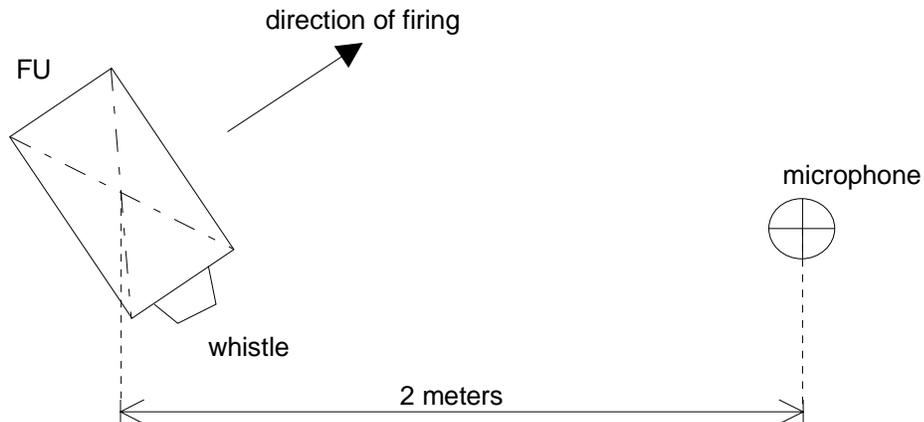

Figure 1-2. Test setup for sound measurement.
1. Mount the FU on the M1A1 DIFCUE adapter, or equivalent so that the FU is at an angle similar to that shown in fig 1-2.
2. Establish all cable connections between the Firing Unit and the function generator and between the Fire Control Unit and the DC supply (fig. 1-1). Establish the microphone test setup according to fig. 1-2.